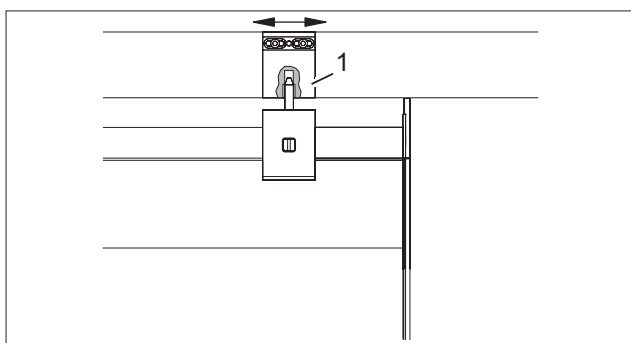

Fig. 40 Aligning the slide bolt top section
4. Align the slide bolt top section (Fig. 40/1) horizontally with the bolts, if necessary (Fig. 40). To do so, slightly loosen the screws and tighten them again after aligning.